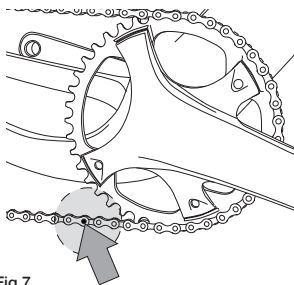

Fig.7
- Move the chain onto the smallest sprocket, then position the links to close in the area indicated in Fig.7.